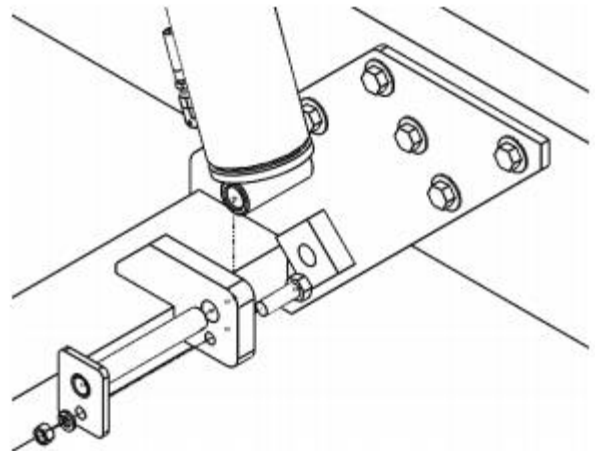

Figure 13
1. Align the lower Hydraulic Cylinder mounting hole with the corresponding holes on the Lower Cylinder Mount as shown in Figure 13.
2. Insert one (1) 1" Cylinder Pin into the cylinder hinge plate through the Hydraulic Cylinder lower mounting hole as shown in Figure 13.
3. From the inside of the hinge plate, insert one (1) 3/8" Hex Bolt through the hinge plate and the lower hole on the Cylinder Pin.
4. Attach one (1) 3/8" Lock Washer and one (1) 3/8" Hex Nut to the protruding end of the Hex Bolt and fasten with appropriate wrench until secure as shown in Figure 13.
5. Repeat these steps for the remaining seven (7) Hydraulic Cylinders.